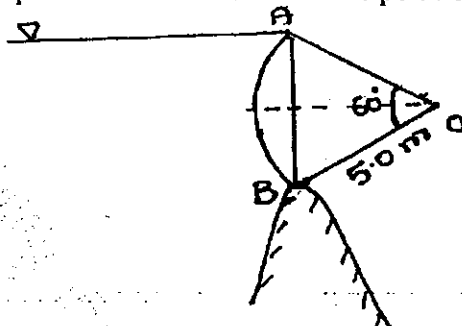

Fig.Q4(a)
- 4 a. A 60° radial gate of 5m radius and 3m length stores water upto its top as shown in Fig.Q4(a). Determine the components of total force and its point of application.